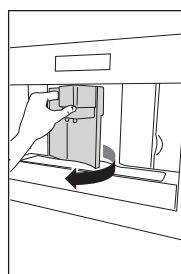
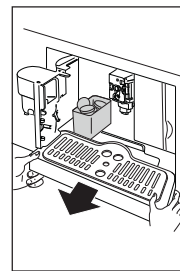
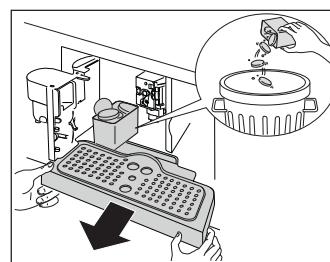

Fig. 23
Fig. 24
Fig. 39
- To clean, open the service door on the front of the appliance by pulling the spout (Fig. 23), extract the drip tray (Fig. 24) and clean (Fig. 39).